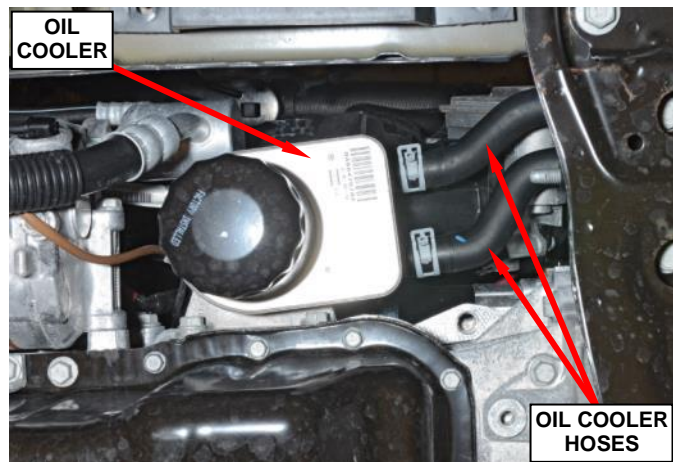

Figure 71 – Engine Oil Cooler
23. **For vehicles equipped with an engine oil cooler**, disconnect the coolant inlet and outlet hoses from the engine oil cooler (Figure 71).